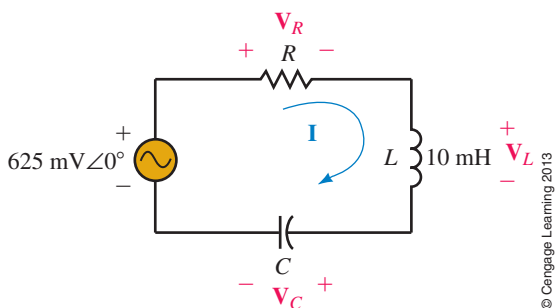

FIGURE 21-48
3. Consider the circuit of Figure 21-48.